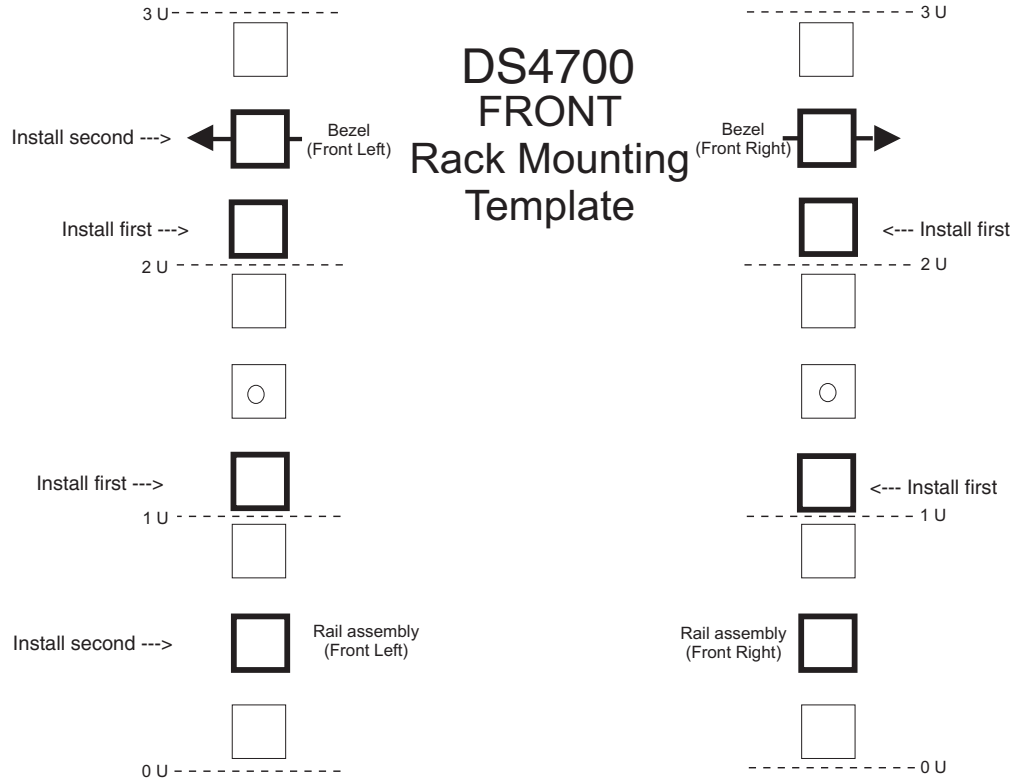
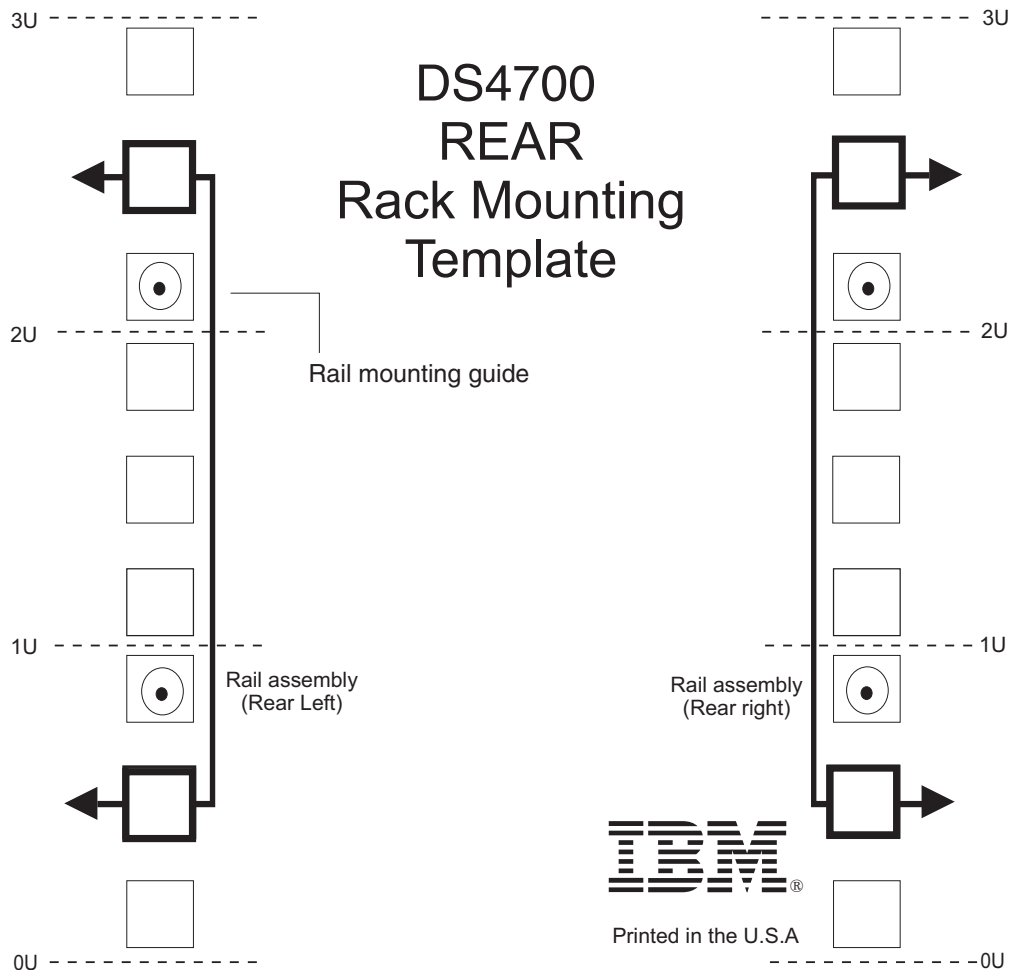

Figure 18. Front rack mounting template
Figure 19. Rear rack mounting template
Use the following templates (Figure 18 on page 37 and Figure 19 on page 38) to identify the proper locations for inserting M5 screws when mounting the support rails and DS4700 Express Storage Subsystem to a rack cabinet. The locations for the M5 screws are highlighted in the templates.
Attention: Use the rack mounting template provided in Figure 18 on page 37 and Figure 19 on page 38 to locate the proper rack mounting holes for installing the support rails into the rack.
- The lip on the rail should line up with the bottom of the storage subsystem (the 0U boundary in Figure 19 on page 38).
6. Hold the back of the rail against the inside of the rack-mounting flange. Make sure the rail mounting guide pins are in the correct holes. See Figure 19 on page 38 for an illustration.
Note: Be sure to install the screw labeled *install first* in Figure 18 on page 37.